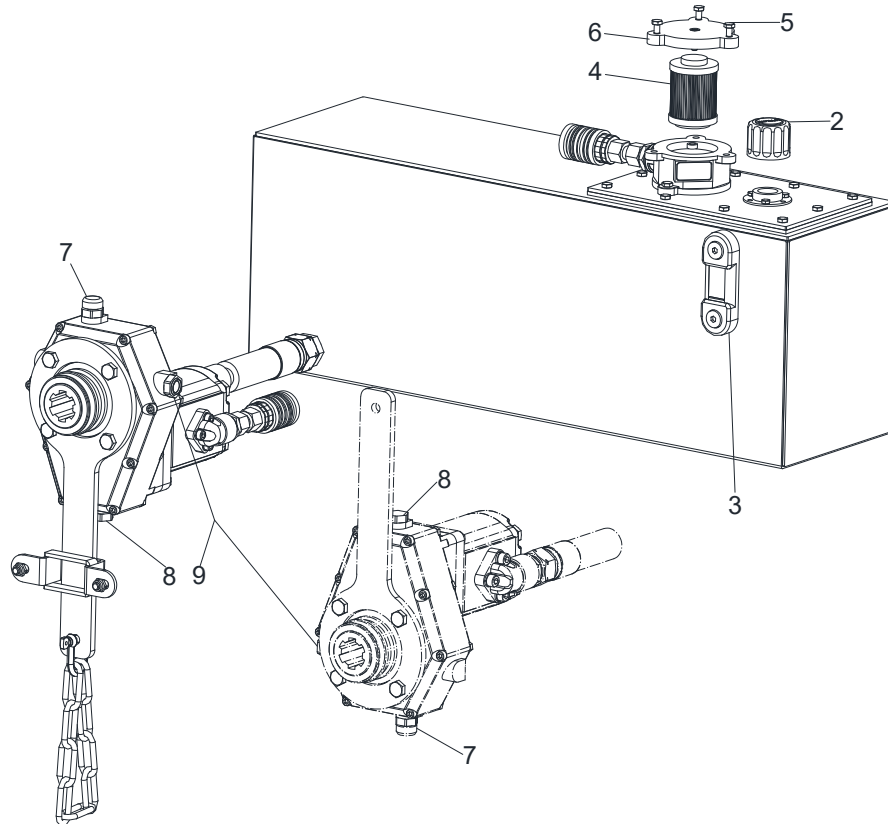

Fig. 48 External oil supply unit DS1200, DS1600, DS3100
1. Unscrew the breather screw (Fig. 48/7).
2. Loosen the drain plug (Fig. 48/8) and drain the oil.
3. Screw in the filler screw (Fig. 48/7) with a new seal.
4. Rotate the pump 180 degrees. Replace the seal on the sight glass (Fig. 48/9).
5. Fill in oil **SAE85-W140** at the drain (Fig. 48/8) up to the height of the sight glass (Fig. 48/3).
6. Screw in the drain plug (Fig. 48/8) with a new seal.
1. Loosen the hose (Fig. 48/1) and drain the oil.
2. Re-attach the hose (Fig. 48/1).
3. Remove the cap (Fig. 48/2) from the filler filter.
4. Fill in **Plantosyn 3268 ECO** (Fig. 48/3) up to the middle height of the sight glass.
5. Close the cap (Fig. 48/2).
1. Remove the cover (Fig. 48/6) by loosening the screws (Fig. 48/5).
2. Replace filter element (Fig. 48/4).
3. Reassemble cover (Fig. 48/6) with screws (Fig. 48/5).
- Replace return filter (Fig. 48/4) every 100 operating hours.